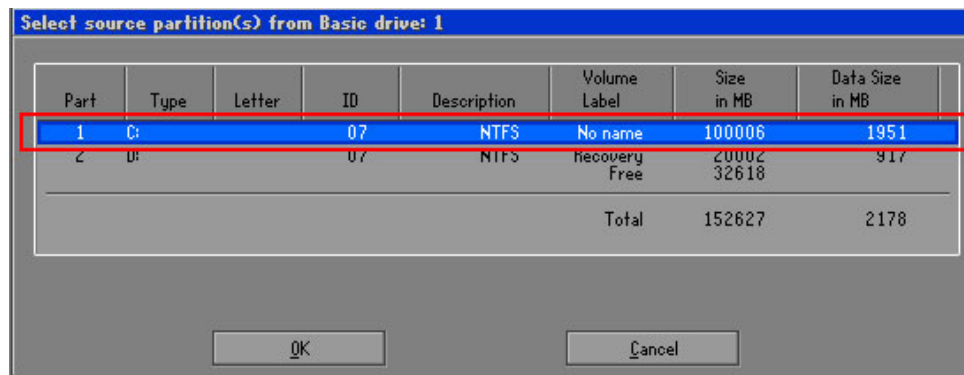

Figure A-12: Select a Source Partition from Basic Drive
Step 6: Select a source partition from basic drive as shown in **Figure A-12**. Then click OK.